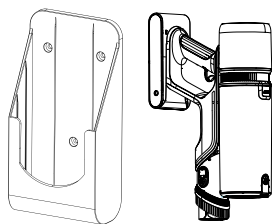

Fig. 1
STEP 6: Once the wall mount fixed into place, place the vacuum cleaner into position ensuring the battery pack has been slotted in. See 'Fig. 1'.